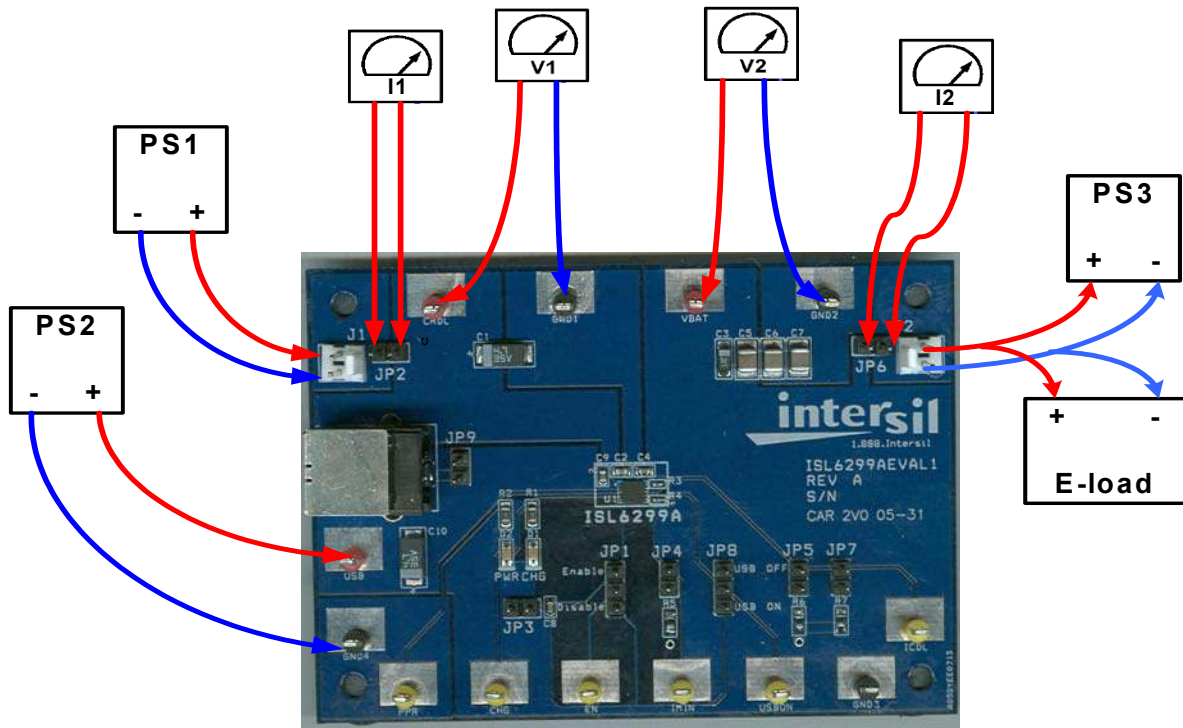

FIGURE 1. CONNECTION OF INSTRUMENTS
## Quick Setup Guide (Refer to Figure 1)
- Step 3: Connect a current meter to JP6 as shown in Figure 1
**JP2** - A shunt installed on JP2 connects the input source from connector J1 to the circuit if input current measurement is not needed. The shunt can be replaced by a current meter if input current measurement is needed, as shown in Figure 1.
**JP6** - A shunt installed on JP6 connects the BAT pin to the output connector J2 if output current measurement is not needed. The shunt can be replaced by a current meter if output current measurement is needed as shown in Figure 1.